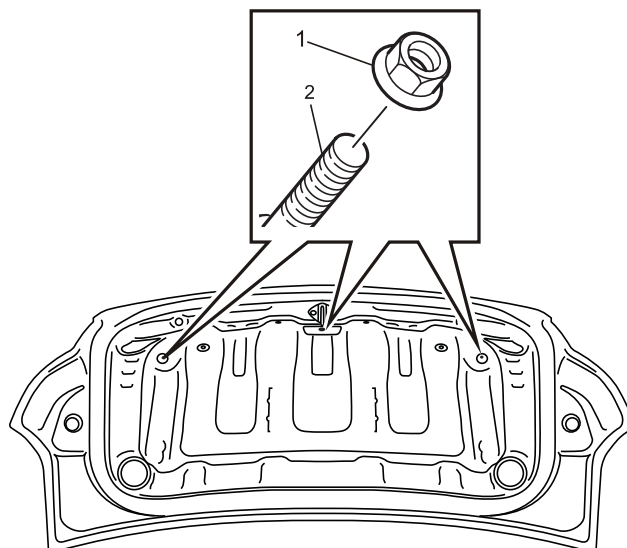

FIGURE 14
36. From inside the decklid fit the nuts (1) supplied to the decklid lip spoiler studs (2). Tighten to 6Nm of torque. Refer to figure 14.